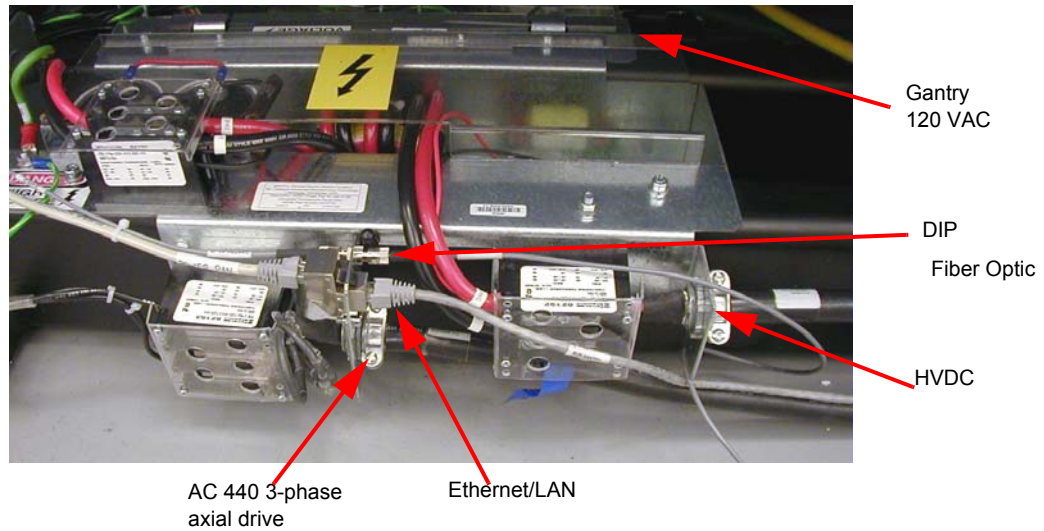
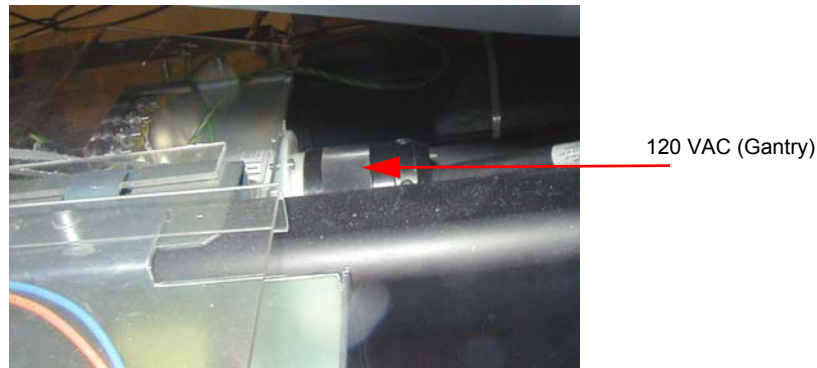
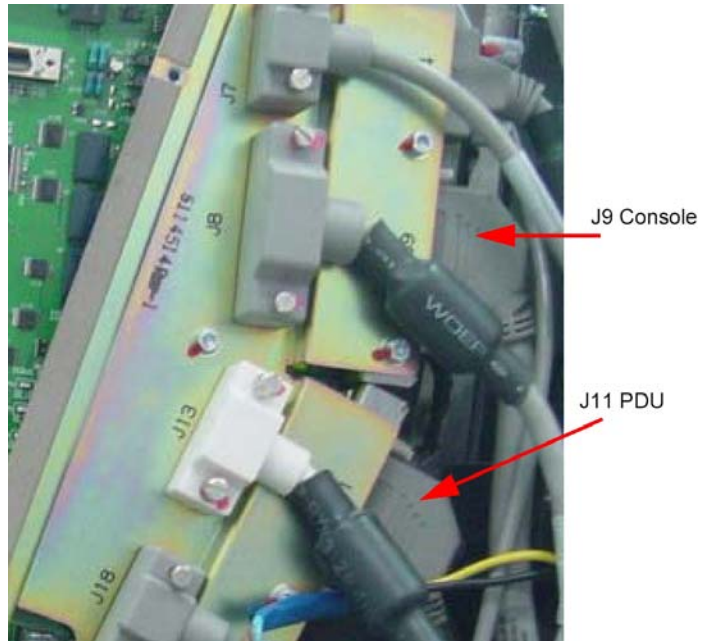

Figure 2-21 Gantry Power Pan Connections 1/2 (Cj Phase 2.5 / 2.0 / 1.5)
Figure 2-22 Gantry Power Pan 2/2 (Cj Phase 2.5 / 2.0 / 1.5)
Figure 2-24 TGPU Connections
- 2.) Install the cables to the gantry power pan. The power pan is located on the rear of the gantry at its base. See Figure 2-21, Figure 2-22, and Figure 2-24 for connections.